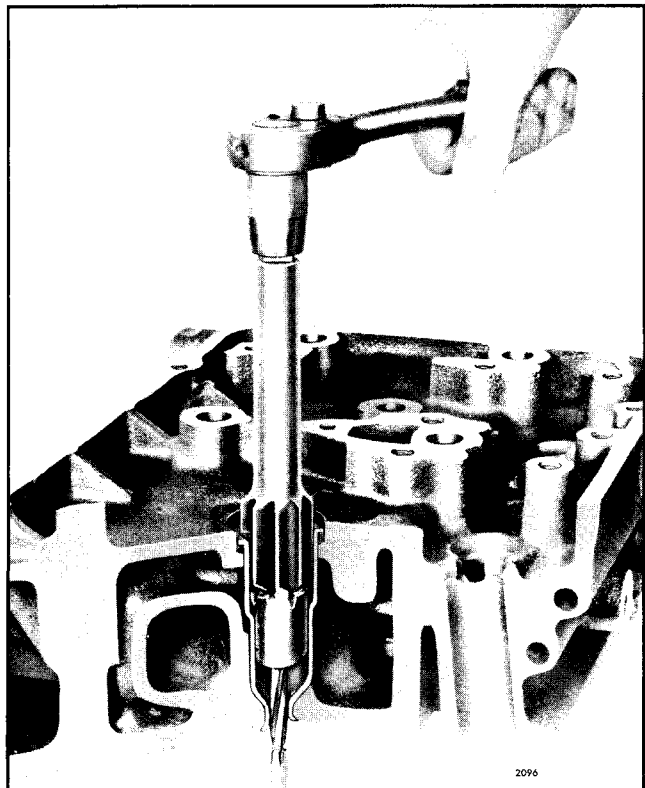
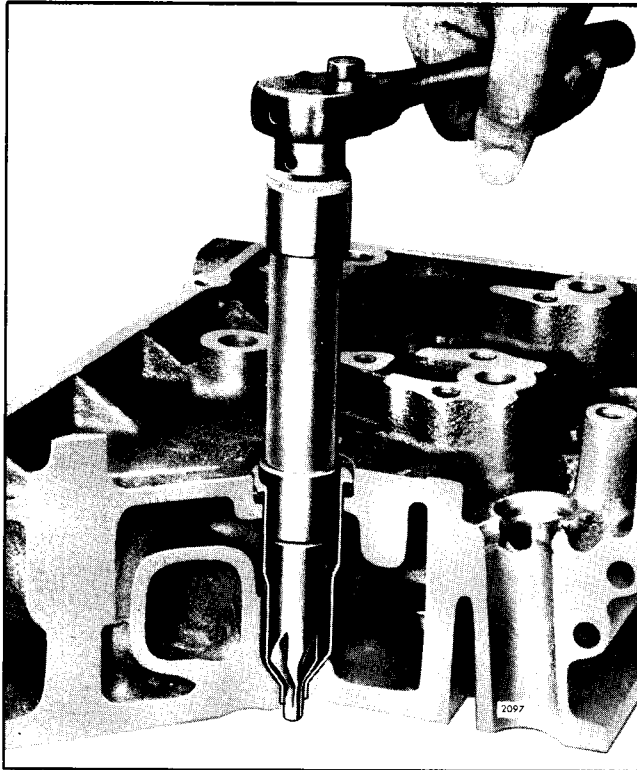

Fig. 4 - Reaming Injector Tube for Injector Body Nut and Spray Tip using Tool J 22525-1
Fig. 5 - Reaming Injector Tube for Injector Nut using Tool J 5286-9
After an injector tube has been installed in a cylinder head, it must be finished in three operations: First, *hand reamed*, as shown in Fig. 4, to receive the injector body nut and spray tip; second, *spot-faced* to remove excess stock at the lower end of the injector tube; and third, *hand reamed*, as shown in Fig. 5, to provide a good seating surface for the bevel or the lower end of the injector nut. Reaming must be done carefully and without undue force or speed so as to avoid cutting through the thin wall of the injector tube.
- b. Turn the reamer in a clockwise direction (withdrawing the reamer frequently for removal of chips) until the lower shoulder of the reamer contacts the injector tube (Fig. 4). Clean out all of the chips.